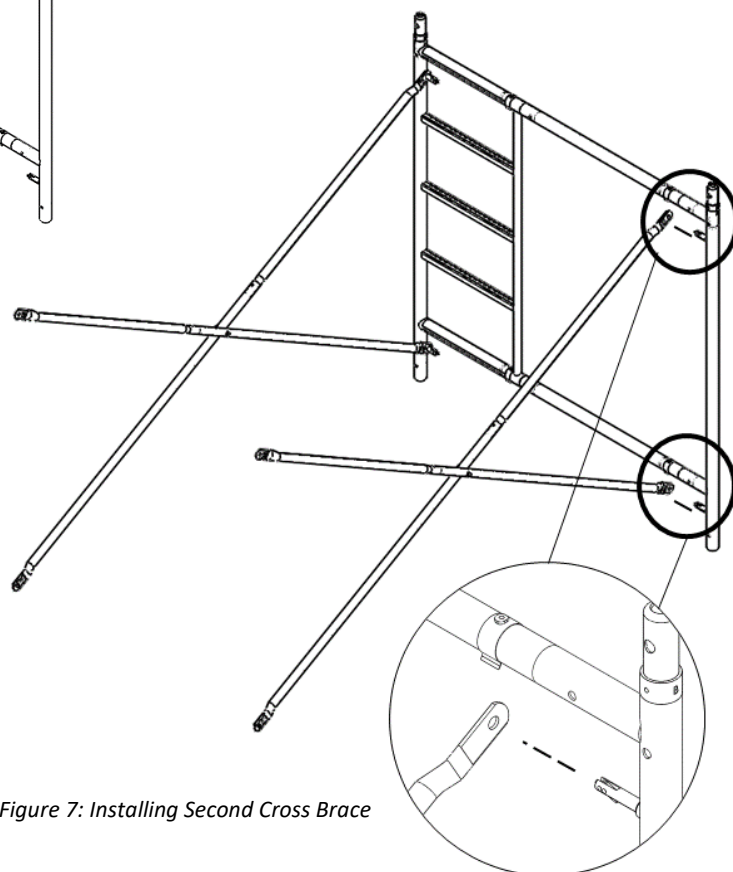

Figure 7: Installing Second Cross Brace
11. Without letting go of the frame, install the second cross brace on the opposite side (Fig. 7) following the same procedure as step 10.
NOTE: After this step you can rest the assembly on the floor with the free end of the cross braces leaning on the floor (Fig. 7)